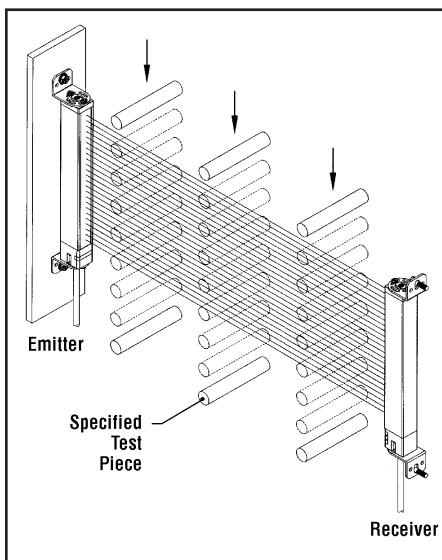

Figure 30. Use of test piece in trip test
- b) With the guarded machine at rest, slowly pass the appropriate specified test piece downward through the defined area at three points, taking care to hold the test piece perpendicular to the defined area: close to the receiver column, close to the emitter column, and midway between the emitter and receiver columns (Figure 30). In each case, the red status indicator should come ON and remain ON for as long as the test piece is within the defined area. When the test piece is withdrawn from the defined area, the green status indicator should come ON. If the green indicator comes ON at any time when the test piece is within the defined area, check for reflective surfaces, or unguarded areas created by use of fixed blanking (see Warnings, page 49). **Do not continue until the situation is corrected.** (See section 3.2.2 and 3.2.4.) Perform a Key Reset to reset the latch after each pass of the test piece.
- b) With the guarded machine at rest, pass the *appropriate specified test piece* downward through the defined area at three points, perpendicular to the defined area: close to the receiver column, close to the emitter column, and midway between the emitter and receiver columns (see Figure 30). In each case, the red indicator must come ON and remain ON for as long as the test piece is within the defined area. When the test piece is removed from the defined area, the green status indicator should come ON (if blanking is ON, the green status indicator will be flashing). If the green status indicator comes ON at any time when the test piece is within the defined area, check for reflective surfaces, or unguarded areas created by the use of fixed blanking (see Warnings, page 49). **Do not continue until the situation is corrected.** (See Section 3.2.2 and 3.2.4). Perform a Key Reset to reset the latch after each pass of the test piece.